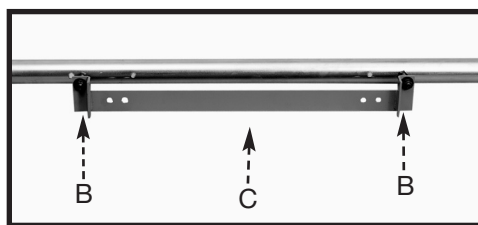

Fig. 5
4. Locate the lower rail assembly (Fig. 5), and remove one nut and washer (B) from each side. Remove the mounting bracket (C). (It is not used in this assembly.)